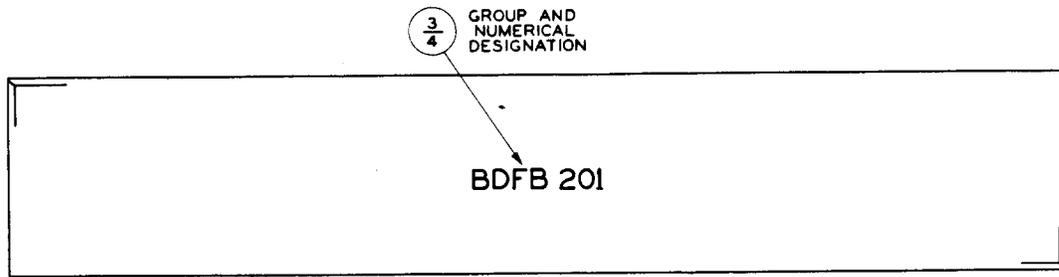
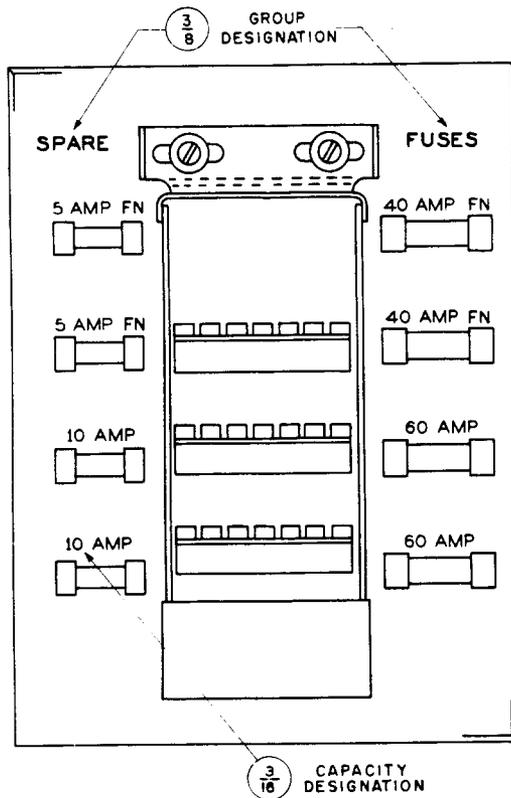

Fig. 24 - Blank Panel Used for Identifying BDFB
Fig. 27 - Spare Fuse Panel for NEC Fuses and 10B Fuse Holder for Alarm-Type Fuses
2.36 For fuse panels exclusive to power plants, see Fig. 19, 25, 26, and 28. Fig. 19 shows typical designations at an equalizing center on floor 2 where one fused circuit supplies aisles 1 to 9. The floor number is used only as a final identification between two or more fuse panels which are otherwise identical. If the entire floor is supplied from one circuit, the aisle numbers are omitted. A blank panel is shown in Fig. 24 and a storage panel for spare fuses in Fig. 27. When space does not permit, the 3/8-inch designations may be reduced to 3/16 inch. All designations on the front of a fuseboard or panel, except capacity, shall be duplicated on the rear of the board unless otherwise modified by applicable specifications and drawings. For a fuse panel on a typical automatic control panel, see Fig. 50. For fuses located on end guards of line-ups of frames with decentralized fusing, see Fig. 20.